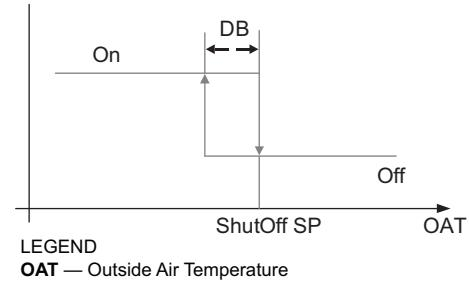

Fig. 54 — Hysteresis Settings
Hysteresis setting (DB) defaults to 2°F (−17°C). See Fig. 54.